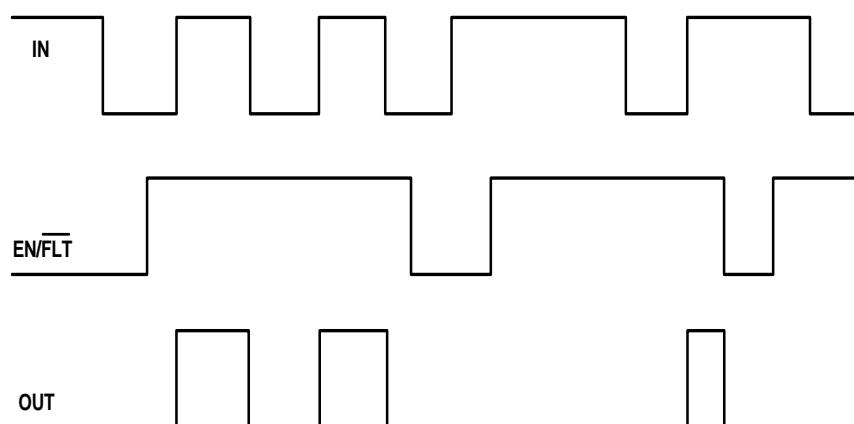

Figure 13 Input/output/enable pins timing diagram
The relationships between the input (IN), output (OUT) and enable (EN/ $\overline{\text{FLT}}$) signals of the 1ED44175N01B are illustrated below in Figure 13.